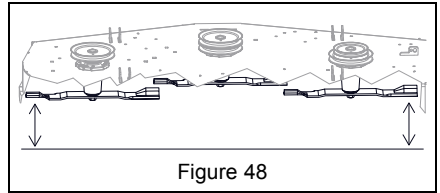

Figure 48
- Engage parking brake. See Figure 48.